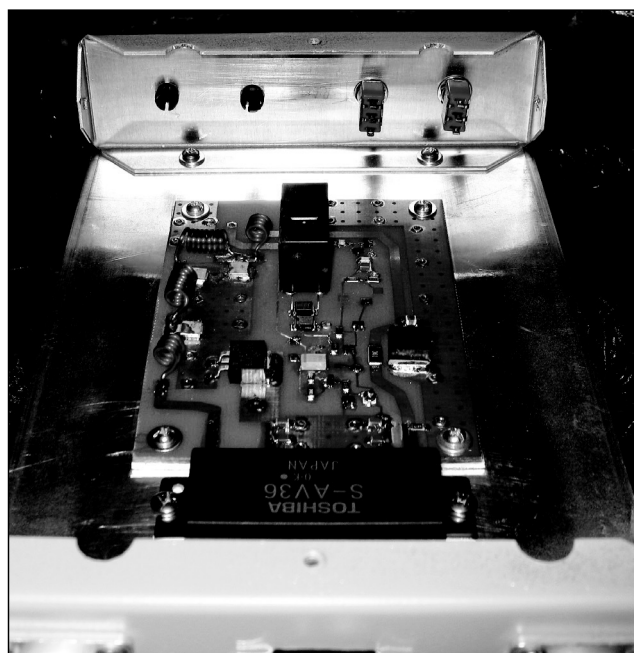
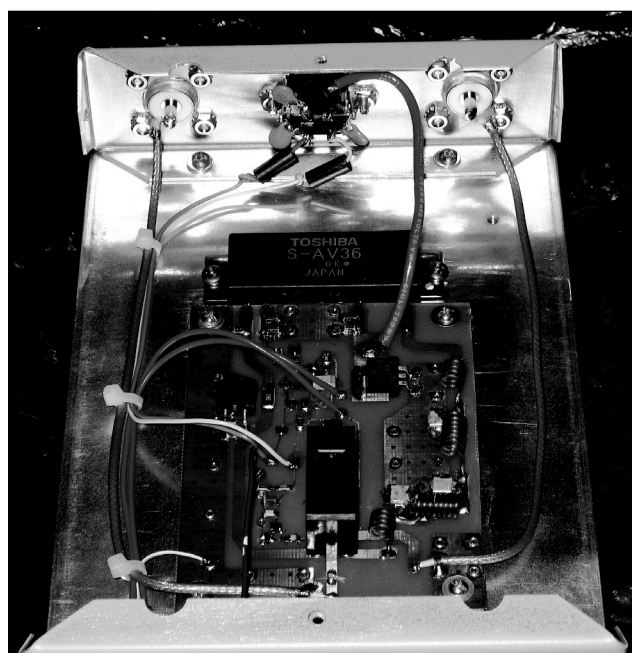

Figure 4 — View of the inside of the front panel before wiring.
Figure 5 — Details of the rear panel wiring.
- Mount the connectors, switches and LEDs, and complete the chassis wiring (see Figure 4). The LEDs have their 1 kΩ resistors soldered directly to their leads, with the wire connected to the other side of the resistor; heat shrink is used to cover the resistor and connections. Use solder lugs under the mounting screws for the connectors on the rear panel; these are for connecting coax shields, dc chassis ground, and bypass capacitors as shown in Figure 5.